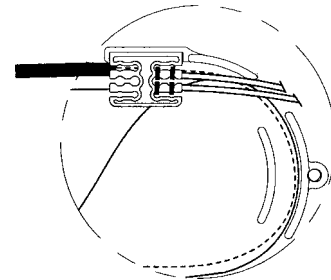

FIGURE 18 - POSITION ENDS OF TRANSPORT TUBES
7.07 Position the near ends of all the transport tubes together so that they are even and positioned under the Retainer Clip. (Figure 18)
7.08 Secure the transport tubes to the Retainer Clip with the tie wraps provided with the Splice Tray. (Figure 18)